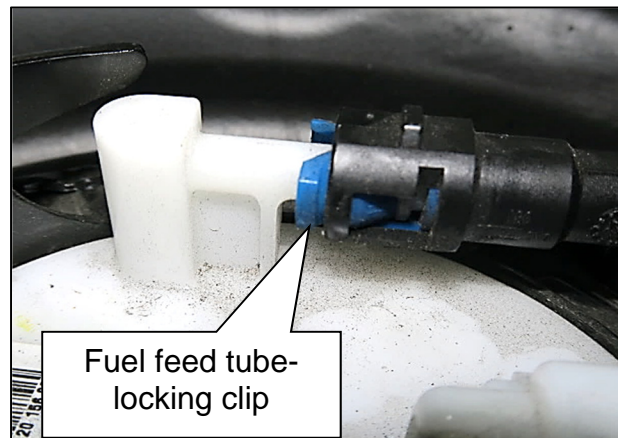

Figure 12
- Verify the blue fuel feed tube locking clip is fully installed into the fuel feed line by pulling back on the fuel feed tube (Figure 12).